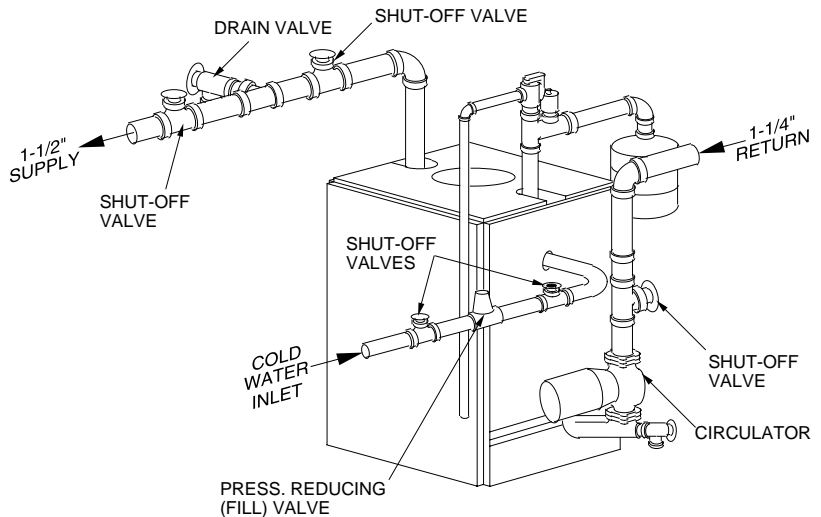

FIGURE 1.4
- **PROCEDURE B:** Install supply and return water piping. For Models HC-85, 100 & 125, supply outlet is at rear of boiler and vent fitting assembly tapping is at front of boiler, Figure 1.4.